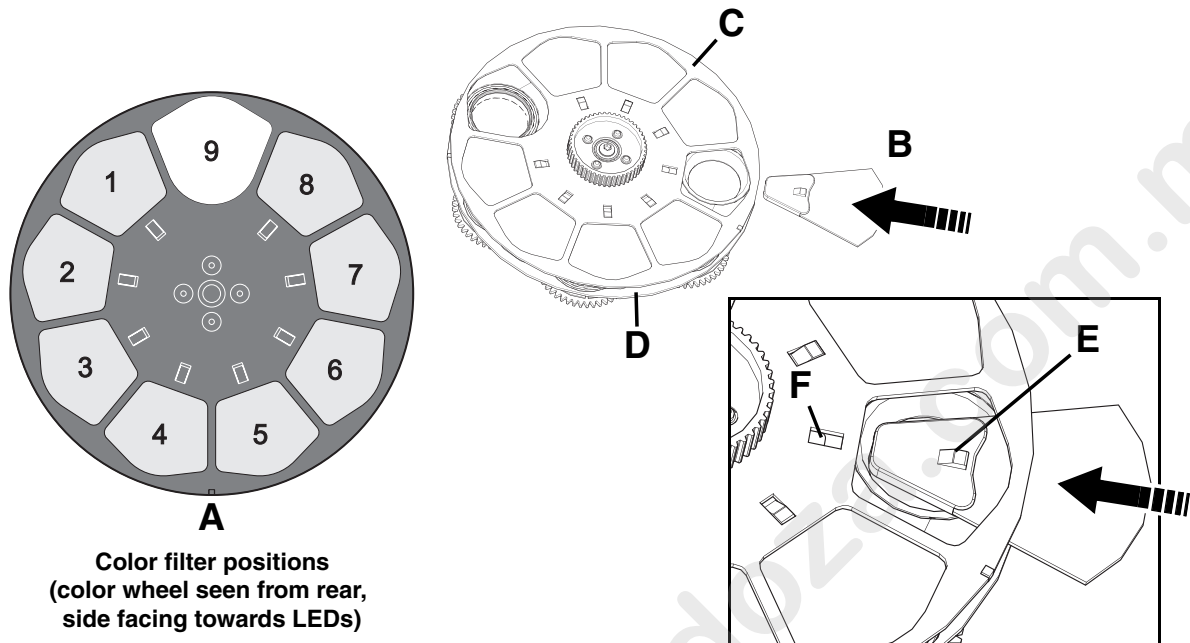

Figure 2: Installing a color filter
1. See Figure 2. Refer to the diagram for filter position numbers. The color wheel is shown from the rear (the side facing the back of the effects module, away from the front cover). It will help you identify filter positions if you note the position of the small magnet **A** on the color wheel opposite the open slot.